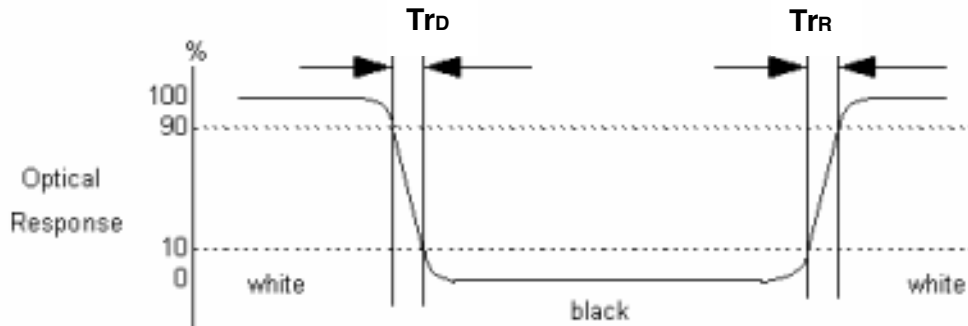

**Fig.4-2 Optical measurement point**
2. Surface luminance is luminance value at point 1 across the LCD surface 50cm from the surface with all pixels displaying white. From more information see Fig. 4-2. When  $V_{DDB} = 24V$ ,  $I_{DDB} = 6.3A$ .  $L_{WH} = L_{on1}$ , Where  $L_{on1}$  is the luminance with all pixels displaying white at center 1 location.